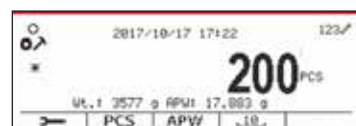

Figure 46
2. Press the softkey corresponding to the **PCS** icon for confirmation. The terminal will calculate the new APW using the number of pieces. (See Figure 46)